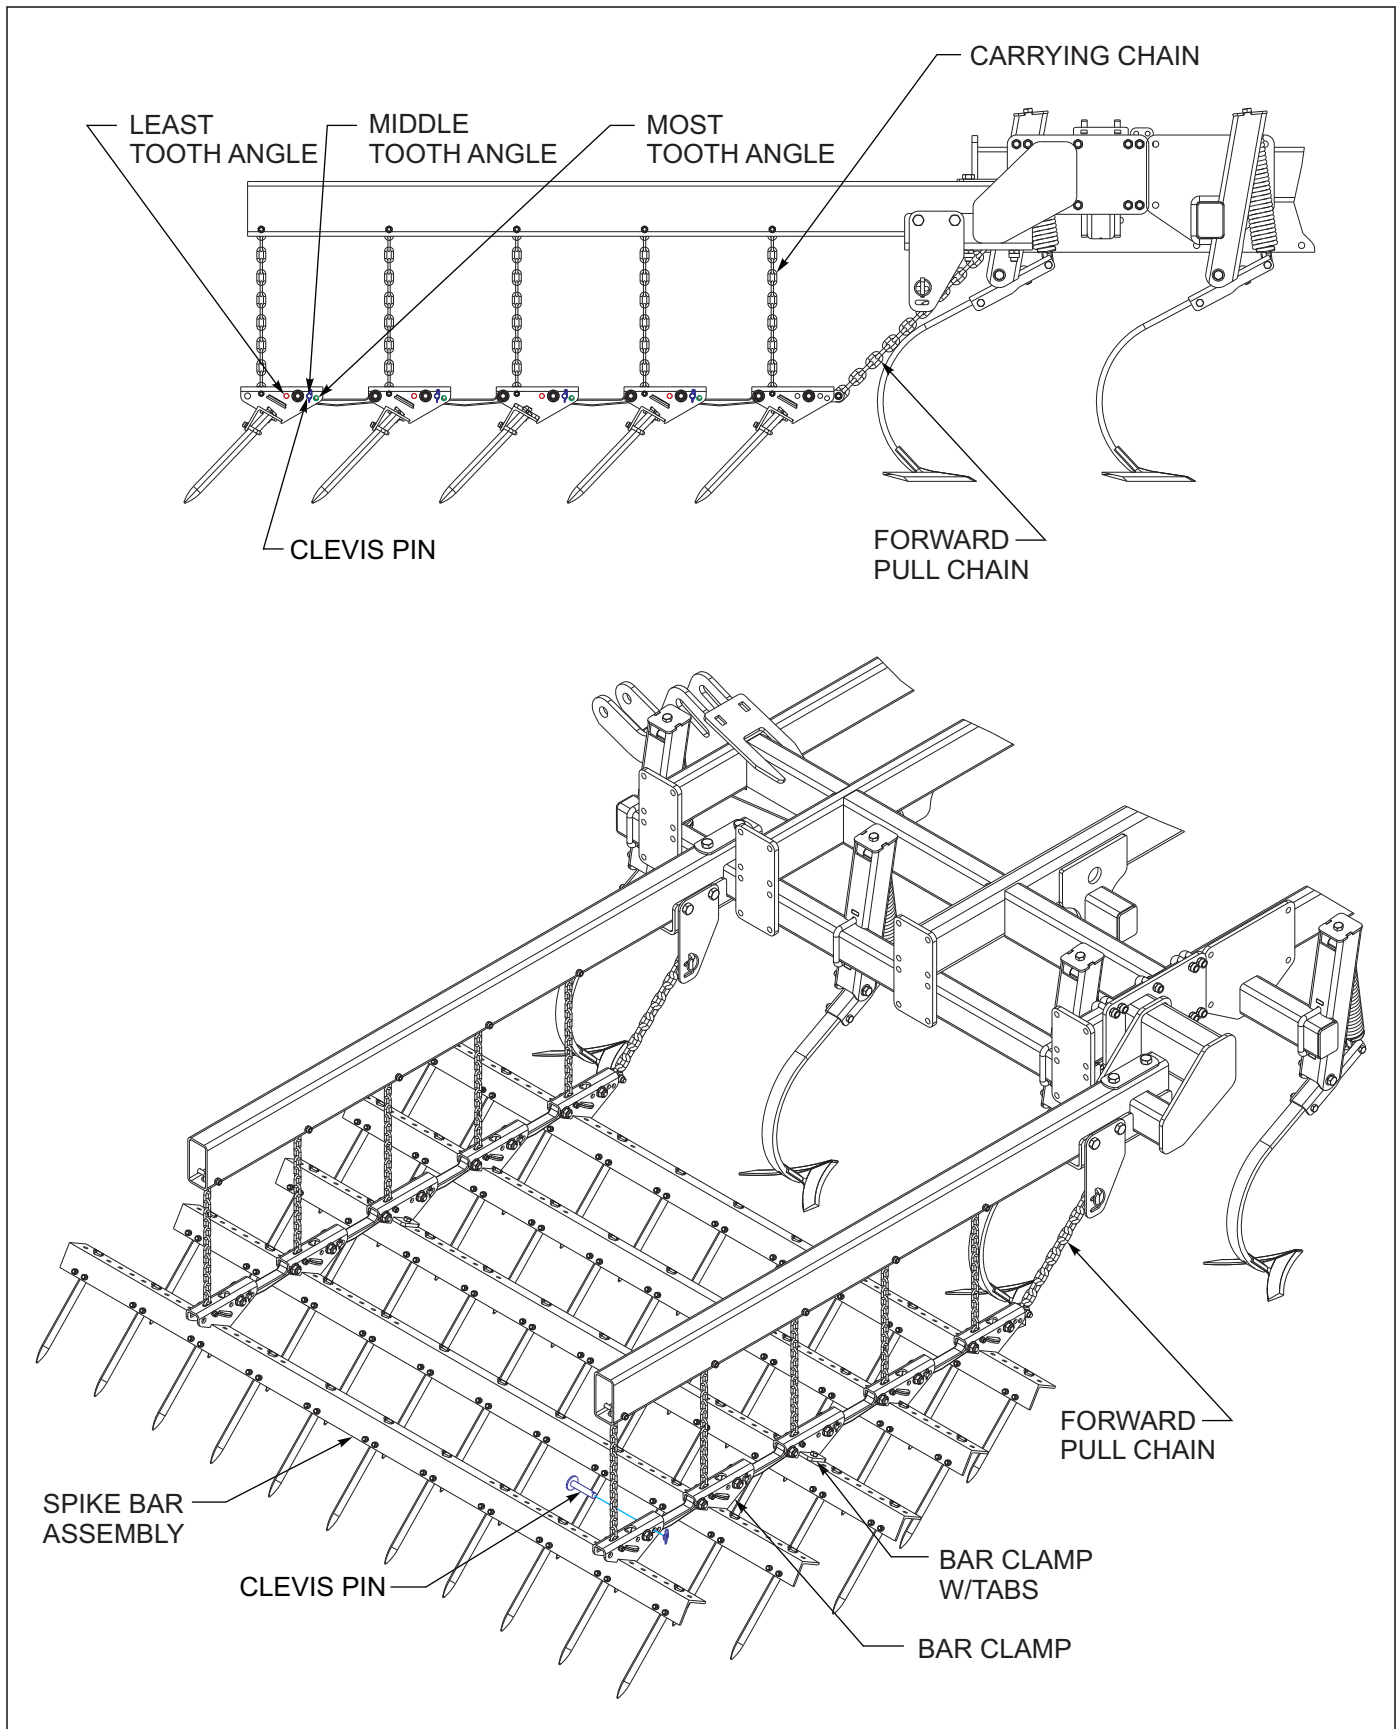

Figure 4-20: 5 Row Spike Harrow Adjustments
2. For the most aggressive spike to action, install the harrow adjustment pin in the forward mounting hole over each bar clamp for each spike bar **See Figure 4-20**. This will position the spike teeth to be in the most vertical position. In wetter or conditions with some residue, lower the spike tooth angle by positioning the harrow adjustment pin in the middle or rear hole. This will allow the teeth to lay flatter and shed more residue.
3. The forward pull chain will also influence how the 5 row spike operates as well **See Figure 4-20**. A taller pull point and shorter adjusted pull chain can help to start residue through the harrow. A lower pull point with a longer adjusted pull chain will help the entire harrow to run flatter from front-to-rear, and be more aggressive for increased leveling. When adjusting the pull chain, insert the desired pulling link through the slotted hole in the pull chain bracket, and install a lynch pin thru the link to secure the chain in place. Make sure the pull chains are set evenly for each section.